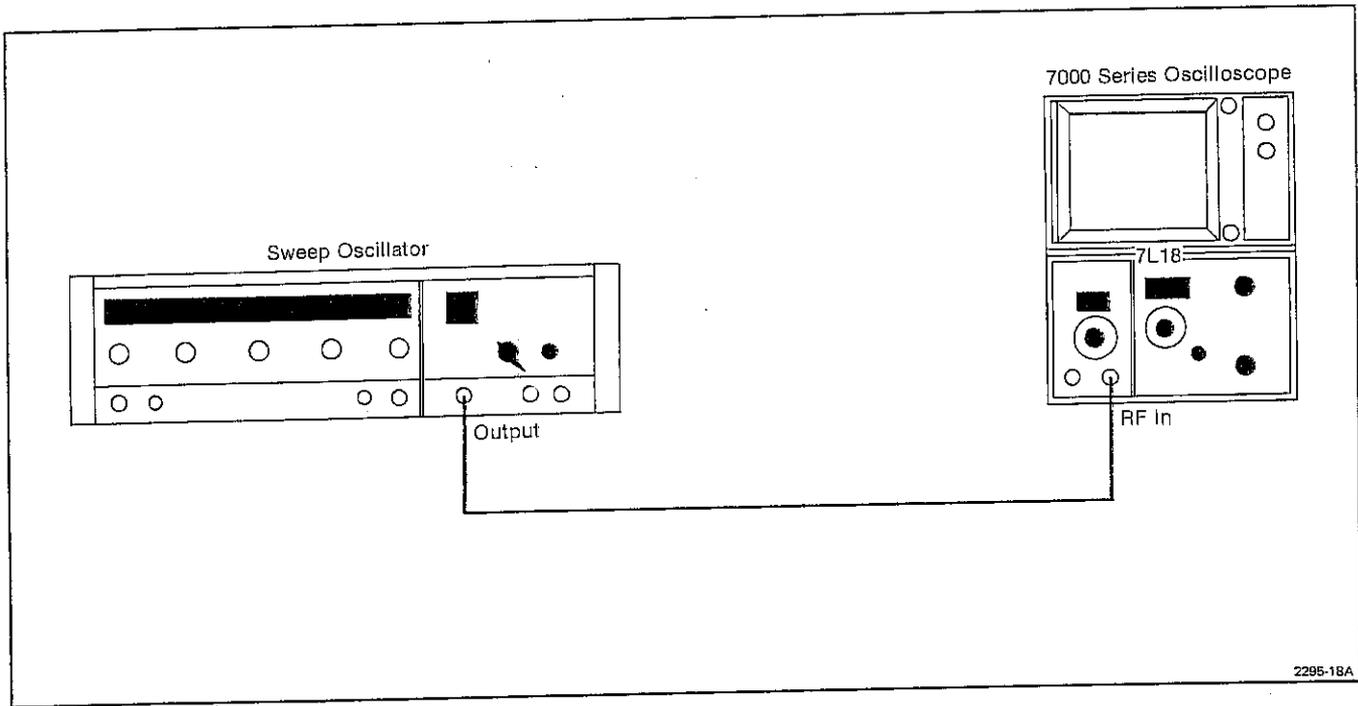

Fig. 4-10. Frequency Response Test Setup.
a. Connect the test setup as shown in Fig. 4-10. Set the front panel controls as follows: